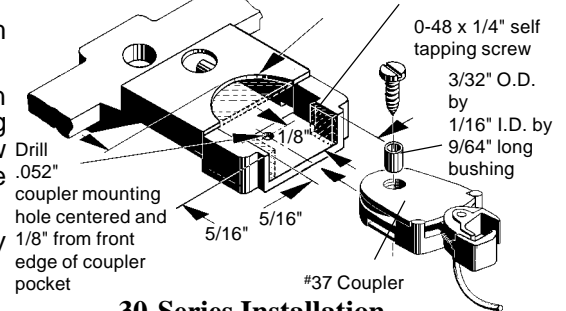

Fig.1 30-Series Installation
5. Make a plastic bushing 3/32" O.D. by 1/16" I.D. by 9/64" long. Dip in solvent and quickly insert into assembled 30-Series coupler mounting hole and push in until flush. Insert 0-48 by 1/4" long self tapping screw through bushing in Draft Gear Box and screw into coupler mounting hole in bottom of coupler pocket, see Fig.1. Reinstall trucks